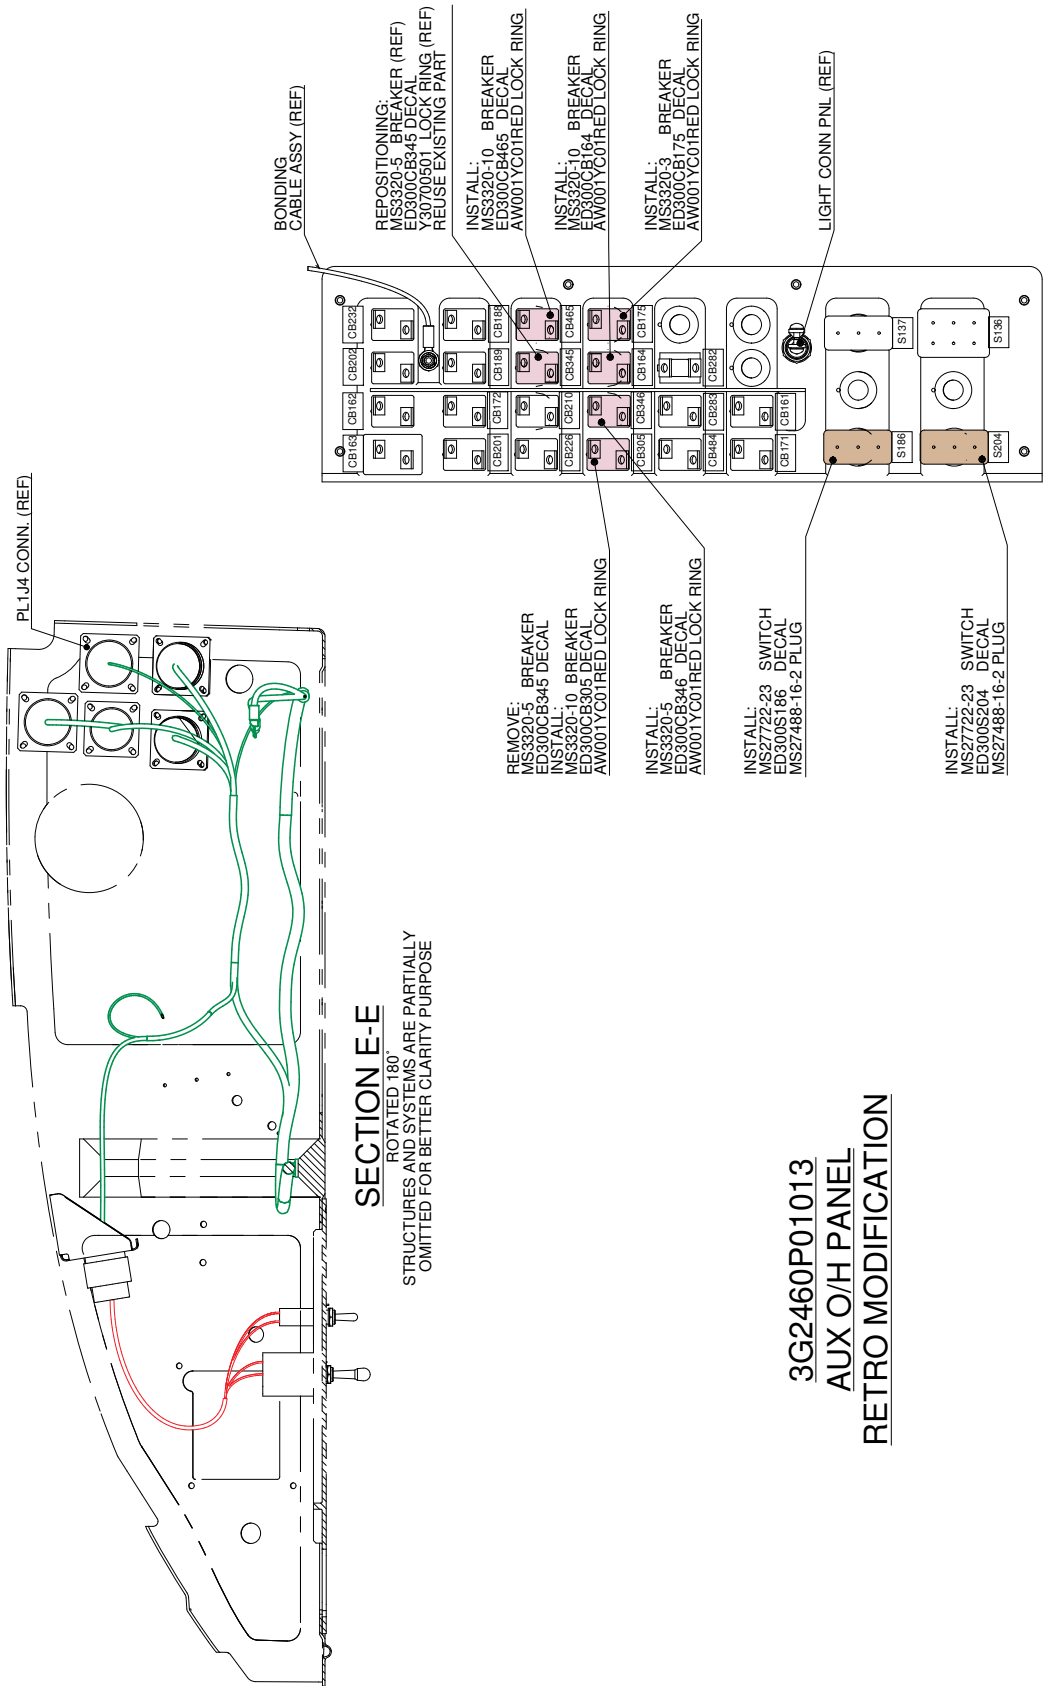

Figure 12
- 7.3 With reference to Figure 12 detail C, remove n°1 breaker P/N MS3320-5 and relevant decal P/N ED300CB345.
- 7.4 With reference to Figure 12 detail C, install n°1 breaker P/N MS3320-5, n°1 breaker P/N MS3320-3, n°3 breakers P/N MS3320-10 and n°5 lock ring P/N AW001YC01RED.
- 7.5 In accordance with AMP DM 39-A-11-00-01-00A-720A-A and with reference to Figure 12 detail C, install decals P/N ED300CB164, P/N ED300CB175, P/N ED300CB305, P/N ED300CB345, P/N ED300CB346, P/N ED300CB465 in an area adjacent to previously installed breakers.
- 7.6 With reference to Figure 12 detail C, install n°3 switches P/N MS27722-23 and n°2 plugs P/N MS27488-16-2.
- 7.7 In accordance with AMP DM 39-A-11-00-01-00A-720A-A and with reference to Figure 12 detail C, install decals P/N ED300S186, ED300S204 in an area adjacent to previously installed switches.